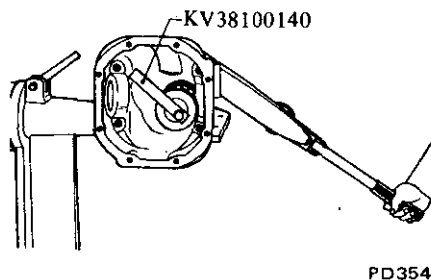

Fig. PD-21 Tightening drive pinion nut
3. Fit drive pinion bearing spacer, washer, front bearing inner race, Dummy Shaft Collar KV38100130 and companion flange in that order on dummy shaft and tighten drive pinion nut to specified torque with Stopper KV38100140. See Figure PD-21.